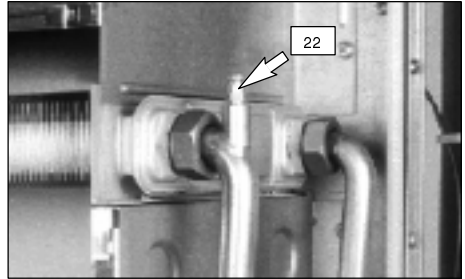

fig. 6.6
- 4 To empty **Central heating** boilers more easily, remove the front panel, the right panel of the case and the sealed chamber cover (section 6.2 in this chapter); slacken off the manual bleed valve fitted to the primary water pipe of the main heat exchanger (fig. 6.6).